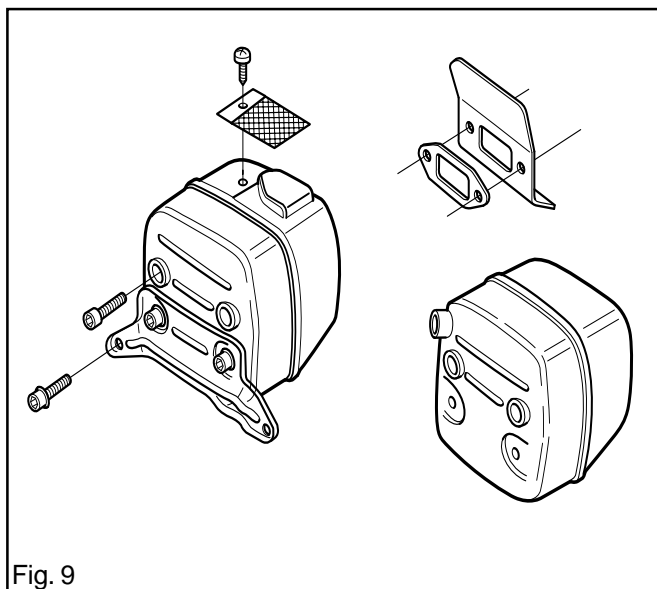

Fig. 9
2. If the saw is fitted with a spark-arrester, refit it. See fig. 9.